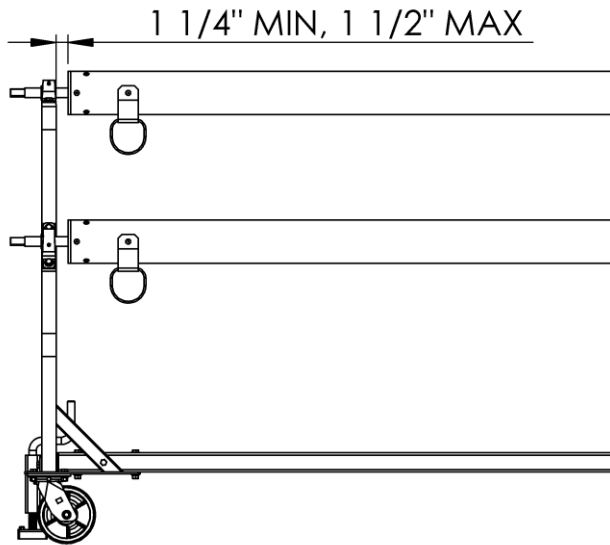

Figure 12
10. Adjust each reel tube so pillow block bearing is 1 1/4"-1 1/2" from the end of each tube as shown in Figure 12. Secure reel tube in place by tightening set screws in the pillow block's shaft collar as shown in Figure 10.